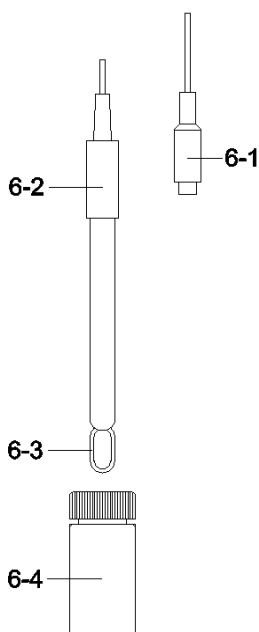

Fig 4
- 3) Hold the " Probe Handle " (7-2, Fig. 4) by hand and let the " Sensing head " (7-3, Fig. 4) immersed wholly into the measured solution. Shake the probe to let the probe's internal air bubble drift out from the sensing head.
- 1) Prepare the Conductivity Probe (included, CDPB-04), install the " Probe Plug " (6-1, Fig. 4) into the " CD Socket " (3-18, Fig. 1).
- 3) Hold the " Probe Handle " (6-2, Fig. 4) by hand and let the " Sensing head " (6-3, Fig. 4) immersed wholly into the measured solution. Shake the probe to let the probe's internal air bubble drift out from the sensing head.